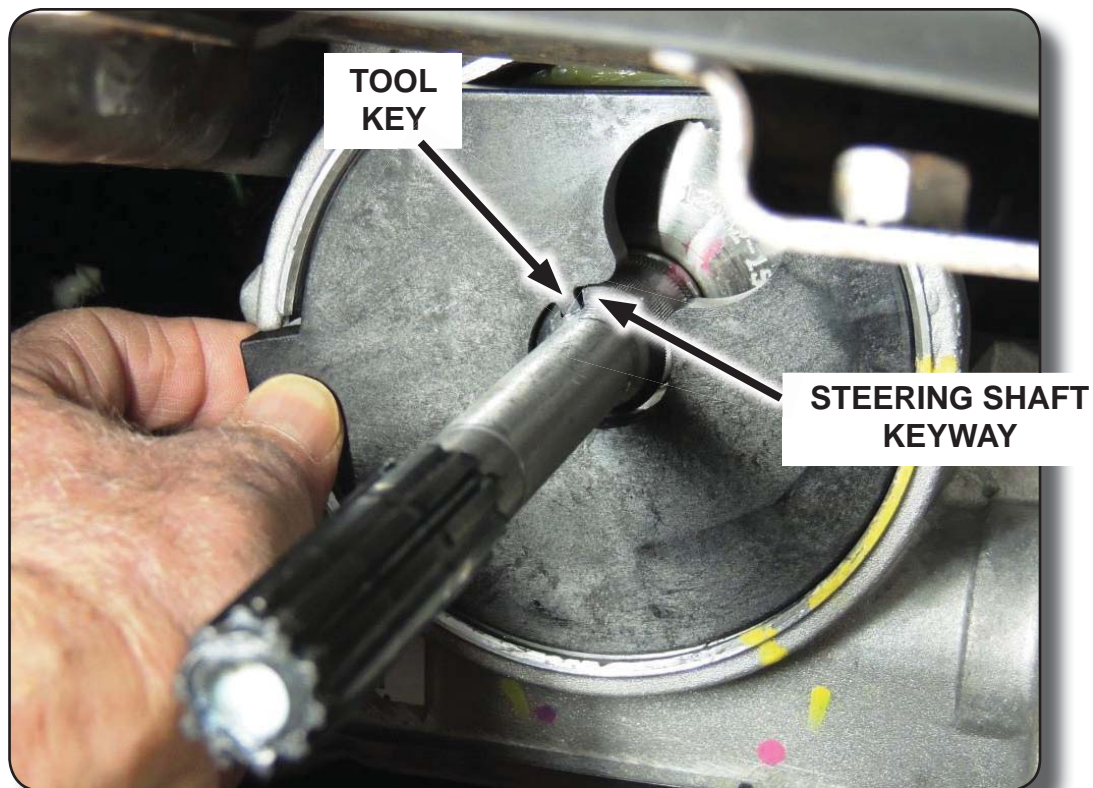

FIGURE 16
22. Install the alignment tool. During installation of the tool, the tool key on the alignment tool should slide easily into the steering shaft key way. If there is any binding, have an assistant bump the tires slightly to the right or left again until the alignment tool falls into place. See Figure 16.